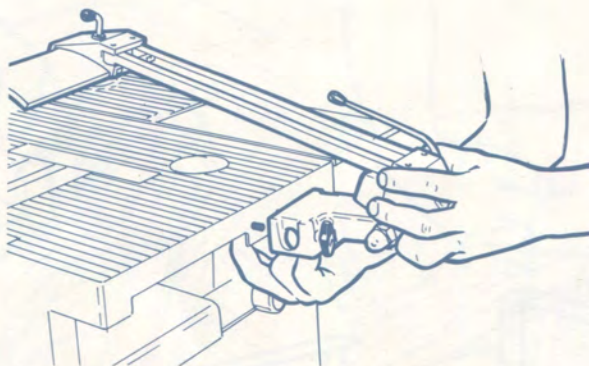
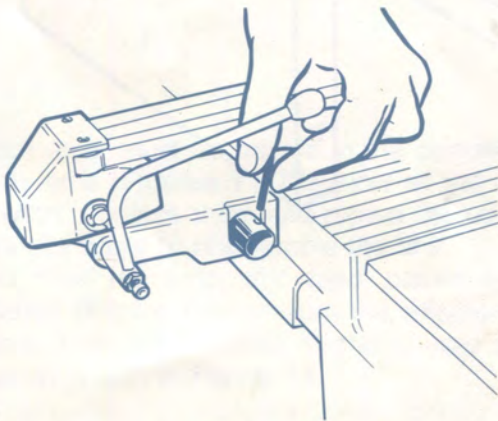

Fig. 76
Fig. 77
1. For the special guard on the surfacing planer, just screw the support onto the side of the table (**Figure 76**). This guard can be moved both horizontally and vertically and you can swing it back out of the way when it is not needed.
2. The same support is also used for mounting the special guard on the circular saw (**Figure 76**). Insert the short end of the tubular mounting arm in the hole provided and tighten the locking handle (**Figure 77**). Mount the guard at the other end of the arm (**Figure 78**).